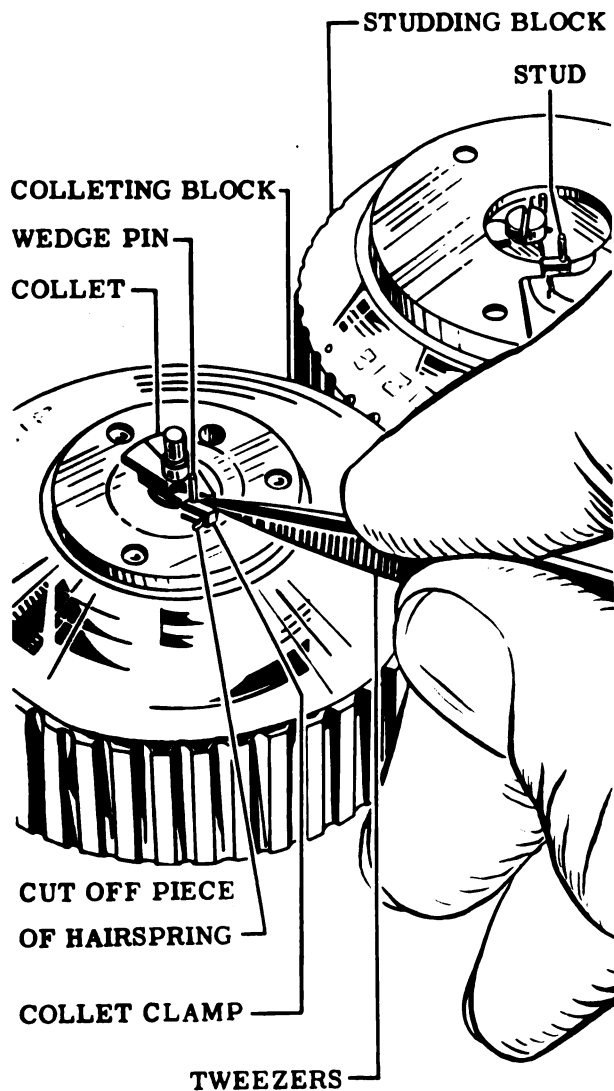

Figure 51
2. Place collet or stud on colletting block (Tool No. 44) or in studding tool (Tool No. 45). Locating pin of collet should be in work hole of block; stud should be upside down on studding tool. Colletting block and studding tools are illustrated in Fig. 51.
6. Insert wedge pin, drive in lightly, and mark for correct length. See Fig. 51. Allow approximately 0.050 in. for driving. Remove pin; using pin vise (Tool No. 83), cut to correct drive length with cutting pliers (Tool No. 46), and smooth the cut end. Use Tool No. 97 or 10, for finishing.